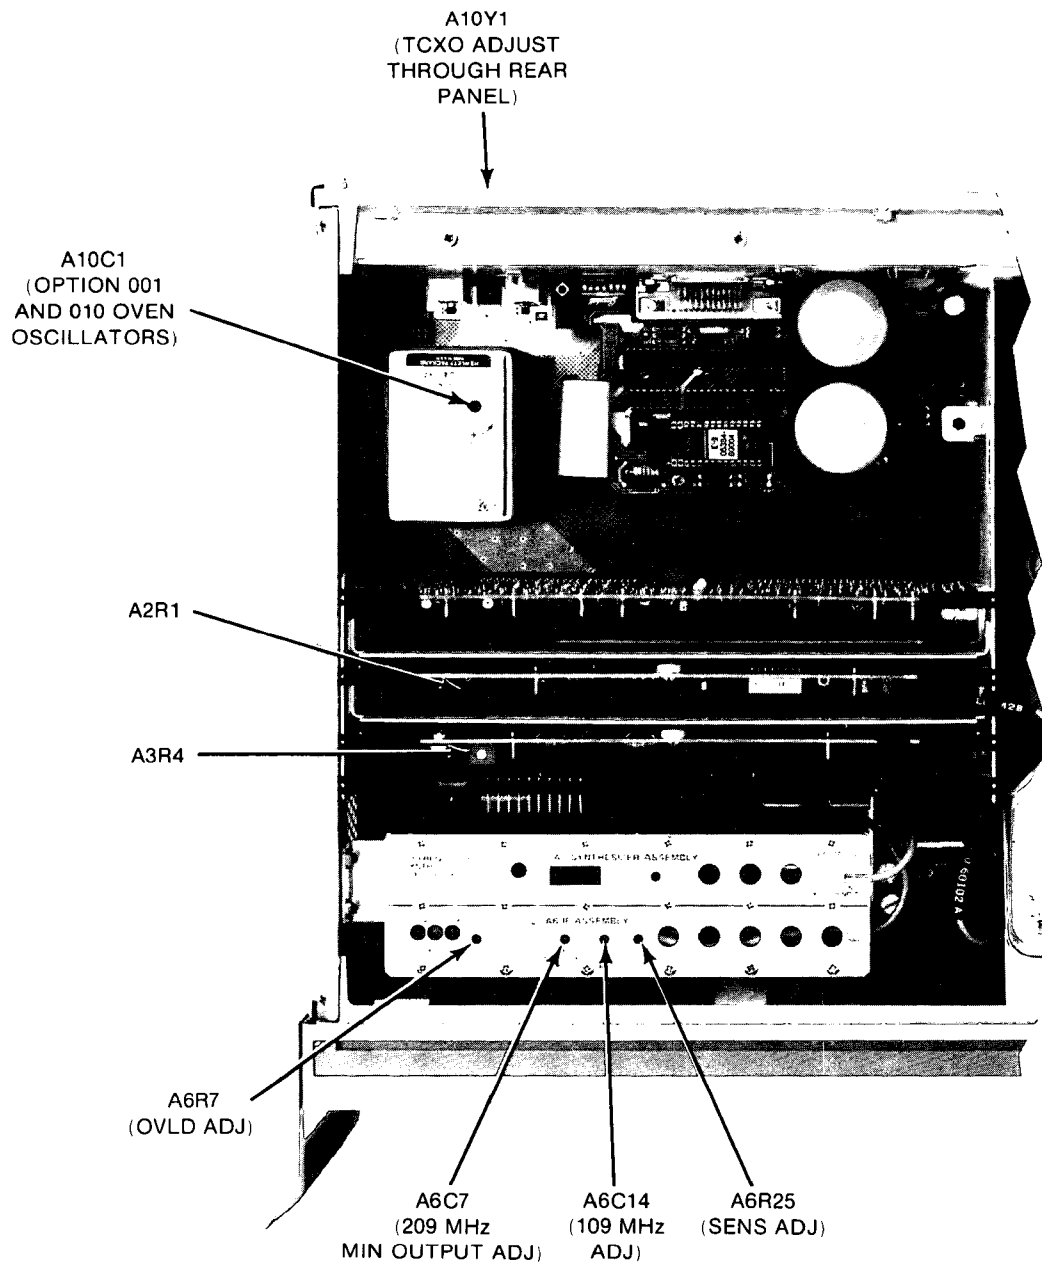

Figure 5-1. HP 5350B/5351B/5352B Adjustment Locations
5-7. Adjustment locations are identified in Figure 5-1. Note that all adjustments, except for the TCXO standard timebase adjustment, must be made with the top cover removed. The TCXO adjustment is made through the rear panel hole labeled TCXO ADJUST.
- b. Remove the top cover of the instrument and locate the adjustment (A10C1) on the top of the oven oscillator, as shown in Figure 5-1.